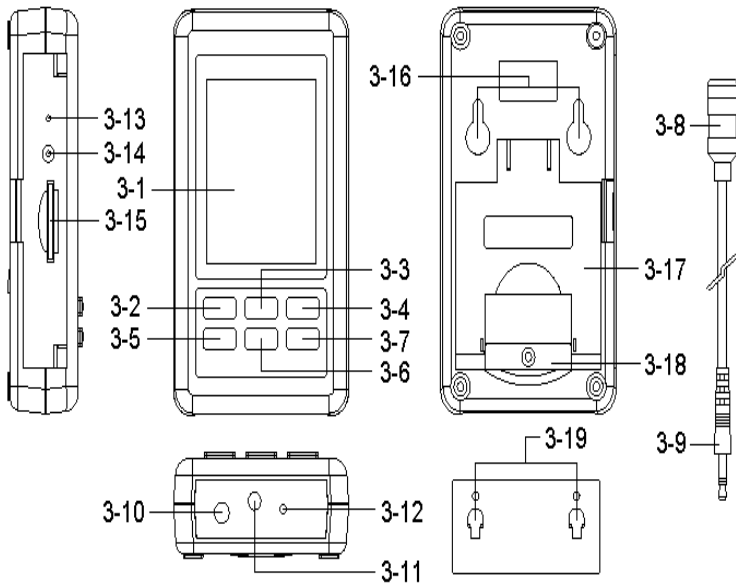

Fig. 1
- 1) Power ON the meter by pressing and holding the " Power Button " (3-2, Fig. 1)for at least 1.5 seconds, the meter's default function is " A"(frequency weighting) , " Fast"(time weighting) " Auto range ". The LCD display will show the Symbol " A, FAST , xx.x dB , 0 ".
- 3) According to various measuring sound source, select the Time Weighting (Fast or Slow) by pressing " ENTER Button " (3-7 , Fig. 1).
- 1) In " SPL " mode to select the " **Dose** " mode by pressing and holding the " RUN button " (3-4 Fig 1) into the DOSE mode .
- 4) According to various measuring sound source, select the Time Weighting (Fast or Slow) by pressing the "ENTER Button " (3-7, Fig. 1).
During the SPL measurement, press the " ▲ Button " (3-3, Fig. 1) once will hold the measured value & the LCD will display a " HOLD " symbol.
1) The data record function records the maximum and minimum readings. Press the " RUN Button " (3-4, Fig.1) once to start the Data Record function and display is shown the " REC " symbol .
- a) Press the " RUN Button " (3-4, Fig. 1) once, the " REC MAX " symbol along with the maximum value will appear on the display. Press the " RUN Button" again the " REC MIN " symbol along with the minimum value will appear on the display. Press the " RUN Button" again will show the " REC " symbol only & execute the memory function continuously.
After power ON, the " LCD Backlight " will light automatically. During the measurement, press the " POWER Button " (3-2, Fig. 1) once will turn off the " LCD Backlight ".
Pressing and holding the " ENTER Button "(3-7, Fig. 1) once , display is shown " LOGGER " , the " LOGGER " will flashing at the same time the measuring data along the time information will be saved into the memory circuit(EEPROM). and the top right will record items.
During execute the Datalogger function , if press the " ENTER Button " (3-7, Fig. 1) once will pause the Datalogger function (stop to save the measuring data into the memory circuit temporality). In the same time the text of " LOGGER " will stop flashing.
If press the " ENTER Button " (3-7, Fig. 1) once again will execute the Datalogger again, the text of " LOGGER " will flashing .
Press the " ENTER Button "(3-7, Fig. 1) continuously at least two seconds, the " LOGGER " indicator will be disappeared and finish the Datalogger.
Prepare a " SD memory card " (1 GB to 16 GB, optional), insert the SD card into the " SD card socket " (3-15, Fig. 1). The front panel of the SD card should face against the down case.
Pressing and holding the " ENTER Button (3-7, Fig. 1) once , the LCD will show the text " LOGGER ", then press the " ENTER Button "(3-7, Fig. 1) once, the " LOGGER " will flashing at the same time the measuring data along the time information will be saved into the memory circuit.